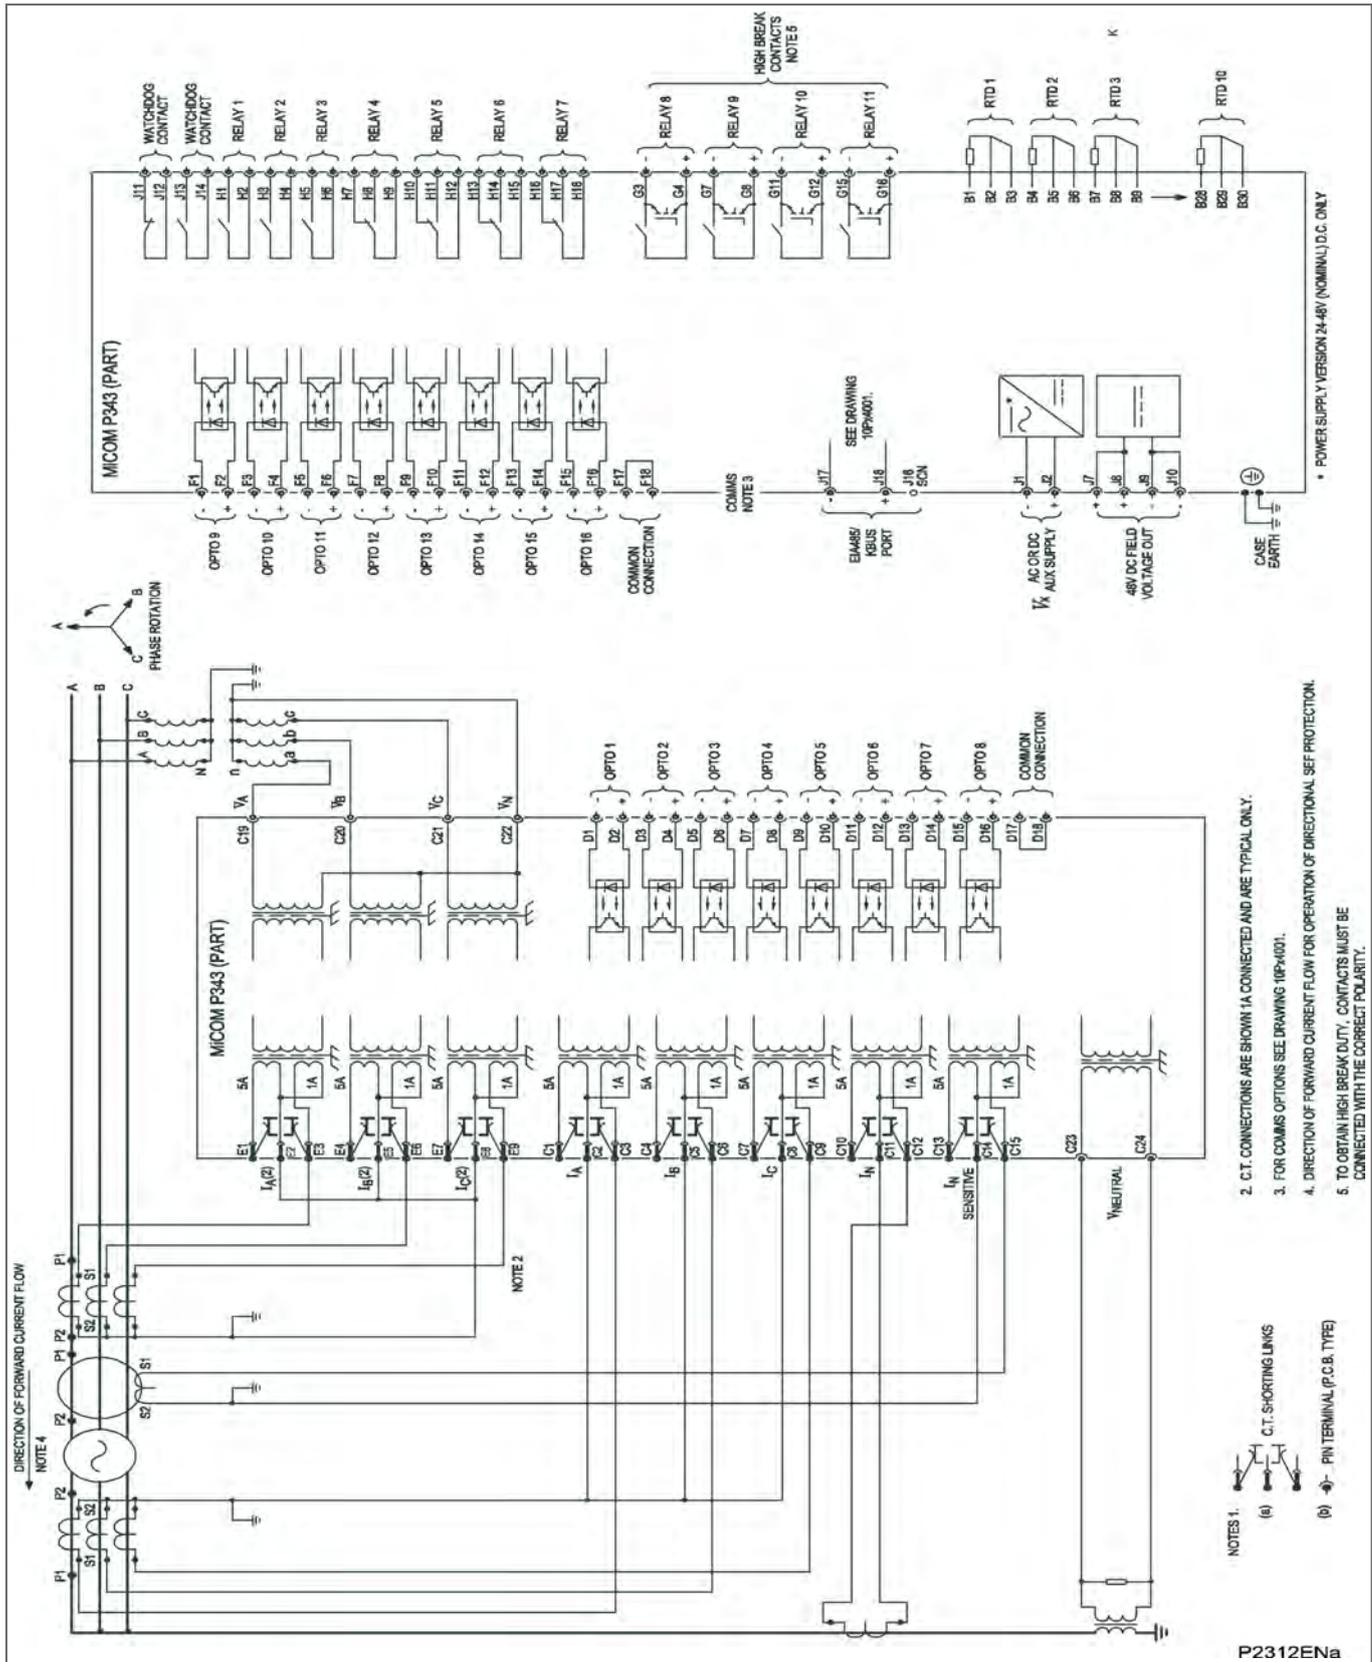

Figure 63 - P343 (60TE) with biased differential (16 I/P & 11 O/P (4HB) & RTDs)
- Figure 63 - P343 (60TE) with biased differential (16 I/P & 11 O/P (4HB) & RTDs)